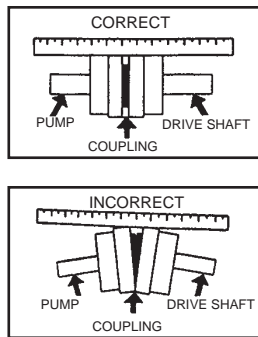

FIGURE 5
7. To assure parallel alignment (Figure 5) place a straight edge along the side of both coupling halves in two different locations, 90° apart. The coupling is aligned when the straight edge rests squarely on the sides of both coupling halves.